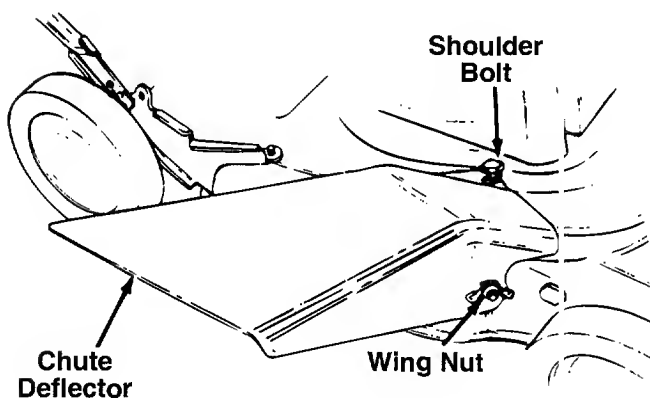
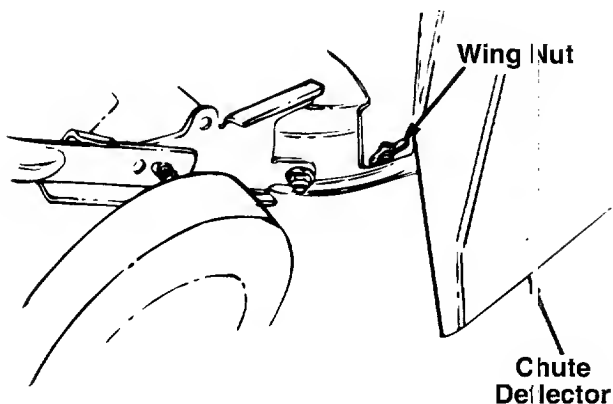

FIGURE 3.
FIGURE 4.
2. Attach the side chute deflector by first placing it over the rear bolt in the side of the deck. Then slide the notch in the top of the deflector around the shoulder bolt on top of the deck. Slide the notch in the side of the deflector around the front bolt in the side of the deck. See figure 3.
3. Secure the front of the chute deflector to the bolt on the side of the deck with one wing nut. See figure 3. Secure the back of the chute deflector in the same manner. See figure 4.